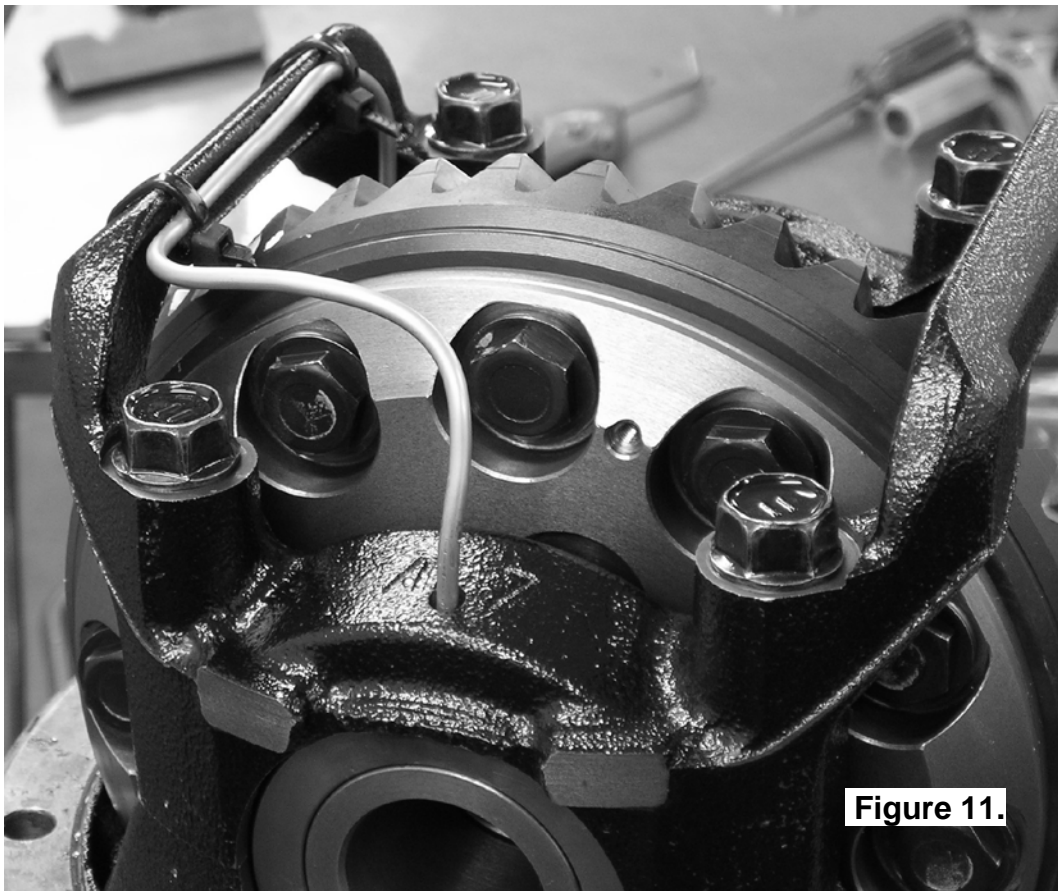

Figure 11.
- Without using sharp, jagged tools such as pliers (usually your hands are the best tool for this job), bend the seal housing tube so that it closely follows the bearing cap brace and protrudes through the bulkhead port in the differential housing (refer to Fig. 11.).
- Cable tie the tube to the bearing cap brace (Fig. 11.).